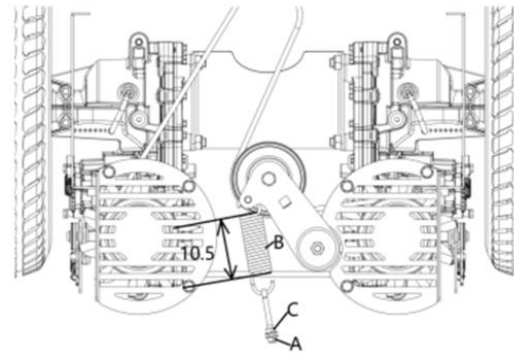

Fig. 20
The way is similar to the above of Deck Belt Adjustment ,The idler spring (B) body length should measure approximately 10.5cm for proper belt tension(Refer to Fig. 20).